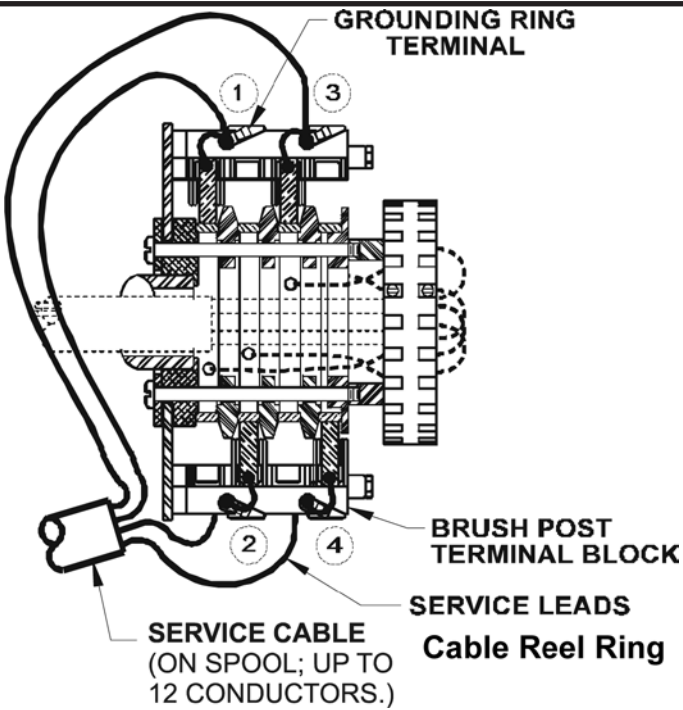

Figure 3
2.5.7 Strip and insert cable leads into the appropriate brush post terminals and tighten screws. (See page 9 for Color Code Chart used by factory. Figure 3 illustrates Slip Rings, and Figure 3a illustrates Welding Rings.) All weld cable lead ends should be tinned for optimal performance (Fig. 3A)